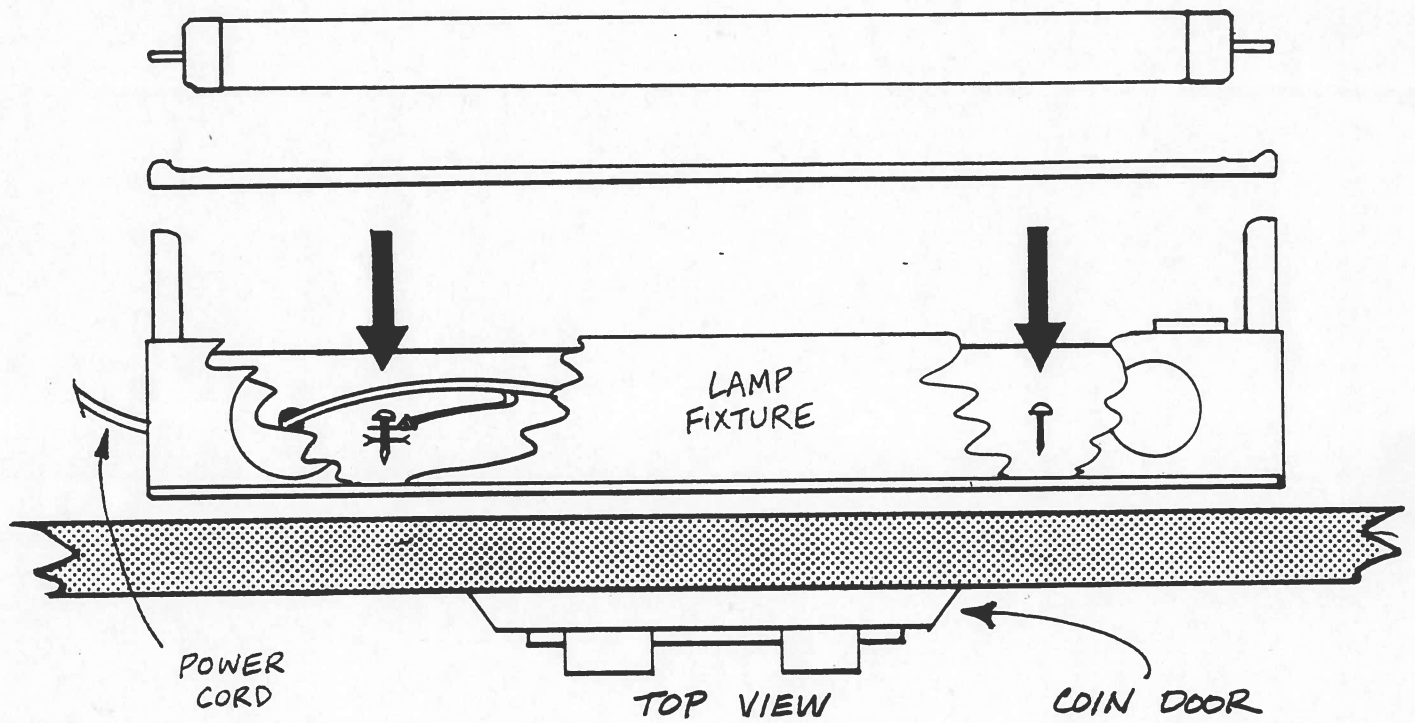

FIGURE 6
1. Locate the fluorescent lamp fixture and pop off the cover plate. Position this fixture on the inside of the cabinet front wall, directly above the coin mechanism door as indicated in Figure 6. Make sure that the power cord protrudes from the bottom left side of the fixture (as viewed from the front of the cabinet). Use the supplied wood screws to mount the fixture after threading the left screw through the green ground wire's ring terminal and the included star washer as depicted in Figure 6.